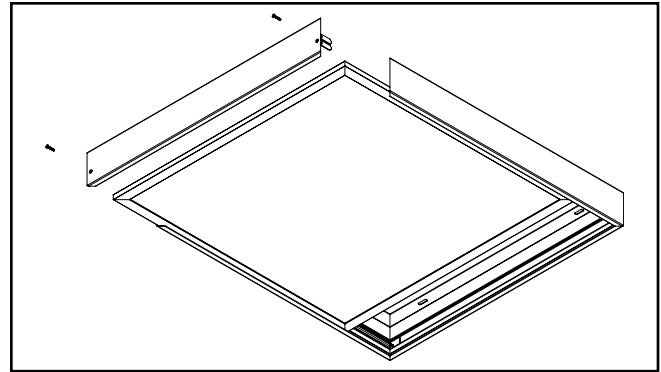

Figure 14.
**Note:** Fastening frame pieces varies slightly, depending on which piece you are installing. Reference the figures 14 & 15 below for details on installment.